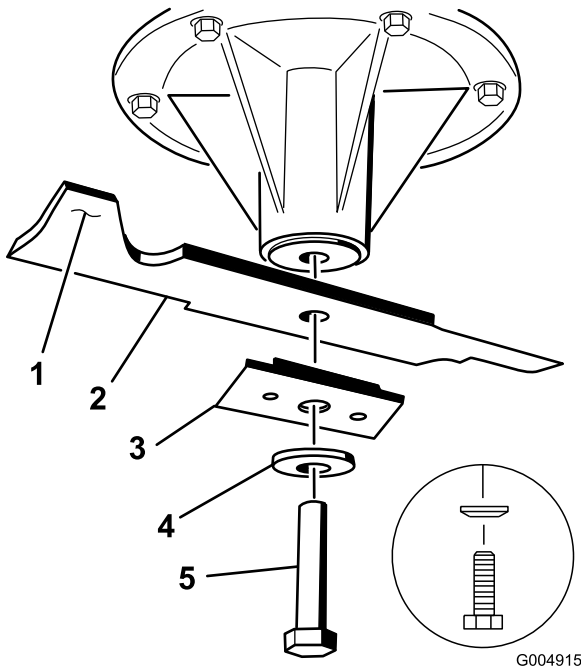
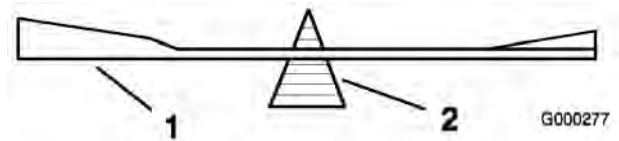

Figure 69
Figure 71
2. Remove the blade bolt, curved washer, blade stiffener, and blade from the spindle shaft (Figure 69).
2. Check the balance of the blade by putting it on a blade balancer (Figure 71). If the blade stays in a horizontal position, the blade is balanced and can be used. If the blade is not balanced, file some metal off the end of the sail area only (Figure 69). Repeat this procedure until the blade is balanced.
1. Install the blade onto the spindle shaft (Figure 69).
Important: The sail part of the blade must be pointing upward, toward the inside of the mower to ensure proper cutting (Figure 69).
2. Install the blade, stiffener, curved washer, and blade bolt (Figure 69).